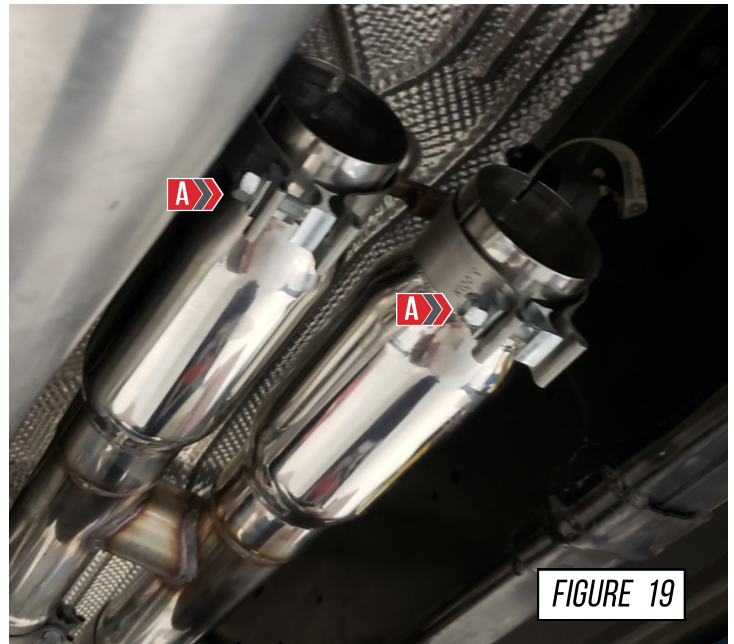

FIGURE 19
Slide a hanger over each side of the H-pipe outlets. For ease of installation, position the clamps with the bolt head facing the drive shaft, as shown at (A) in **Figure 19**.